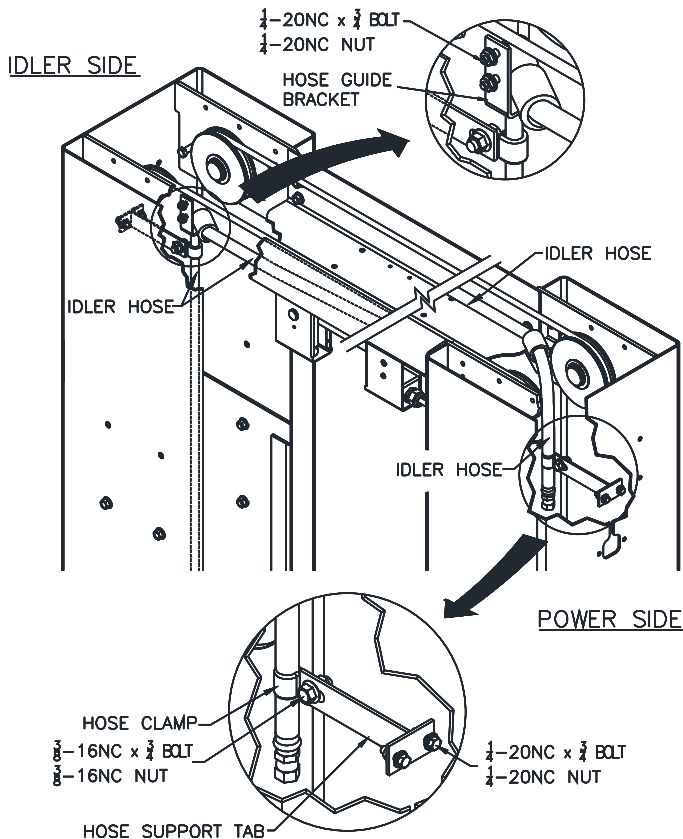

Fig. 11a – Idler Hose Routing & Hose Brackets
- 23) Install the Hose Guide Brackets and Hose Support Tabs to both the Idler & Power Columns using the supplied hardware. Uncoil Idler side hose and route through the Idler Side column extension as shown in **Fig. 11a**, taking care to avoid the synchronizing cables and hydraulic cylinder path. Remove slack and tighten the clamp. Route hose across overhead avoiding the synchronizing cables and down through the Power Side column extension as seen in **Fig.11a**. Do Not Tighten the Clamp at this time. **Note: CL12-1 & CL12-2 will require extension hoses (supplied) to be used with the Idler hose.**